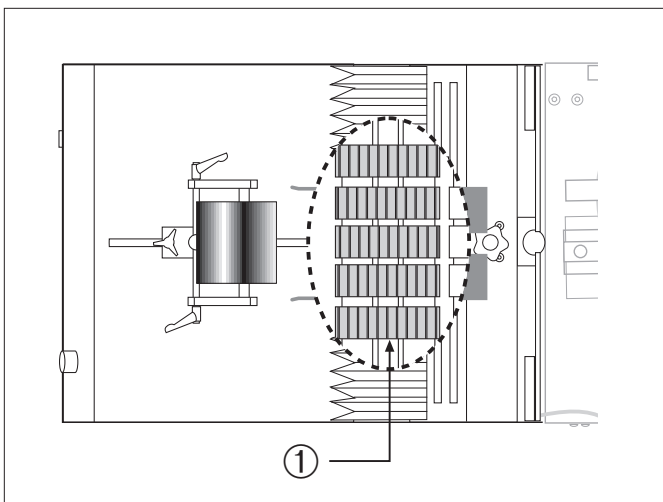

Figure 34. Clean the Feed Belts
To clean the feed belts (Figure 34, ①),